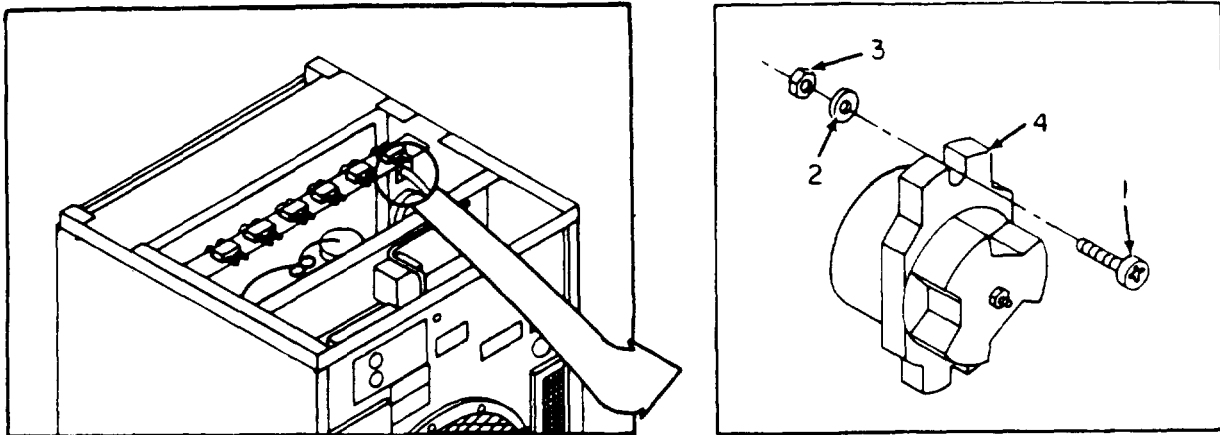

Figure 4-36. Heater Thermostatic Switch (S3)
- a. **REMOVAL. See Figure 4-36.**
2. Replace if defective. Refer to Figure 4-36.